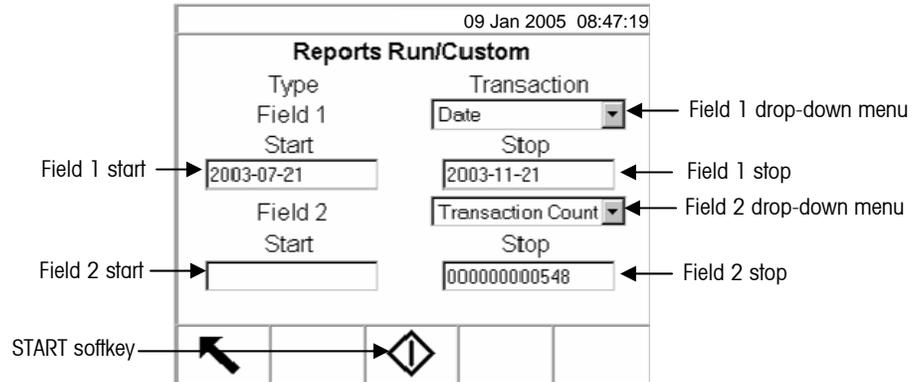

Figure 2-19: Example Custom Report Setup Screen
7. Press the CUSTOM REPORT soffkey to limit the records included within the report fields and run a custom report. See Figure 2-19 for an example of a custom report setup screen.